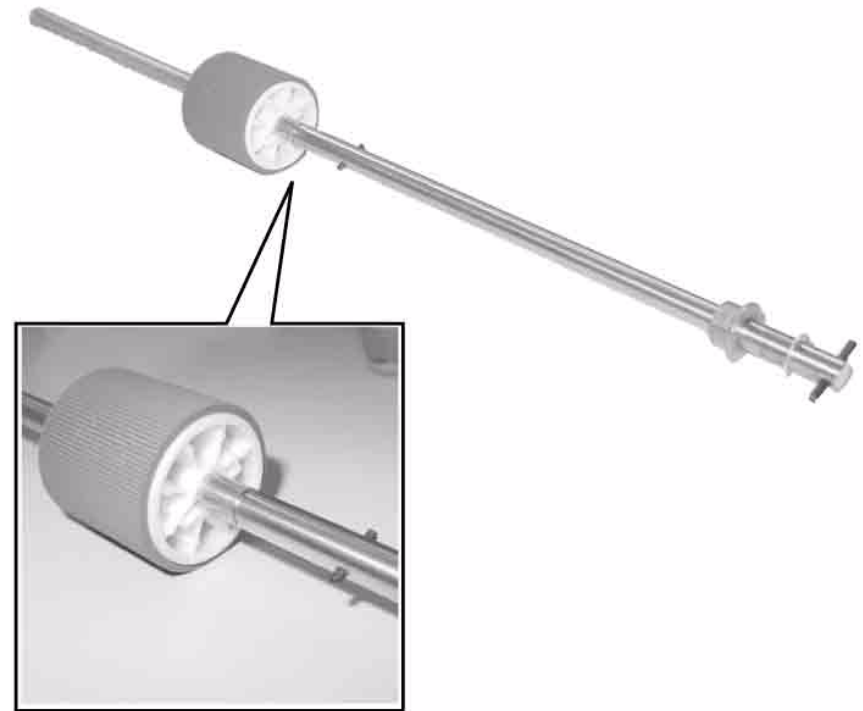

Figure 3 Feed Roll installation Alignment
2. When installing the Tray 2 Feed Roll, align the pin on the Feed Shaft with the groove in the Tray 2 Feed Roll (Figure 3).